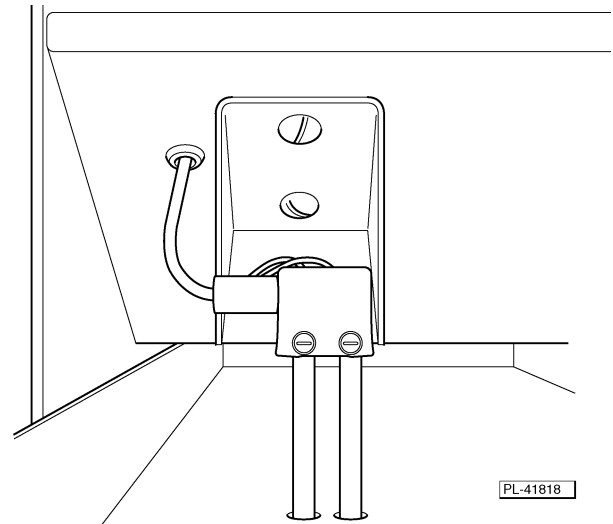

Fig. 39
3. Spray a de-liming agent onto the water level sensor probes once a month (Fig. 39) (or more often if needed) to avoid scale build up. Then, remove scale with a non-abrasive scouring pad.